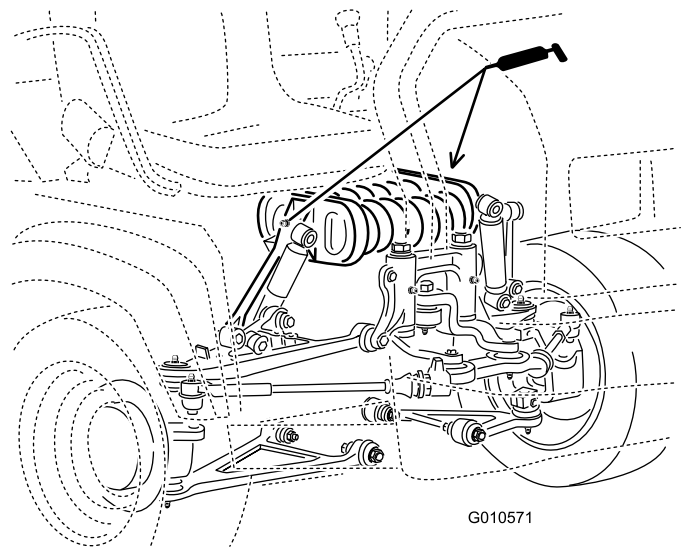

Figure 41
- Tour de ressort (2) (Figure 41)